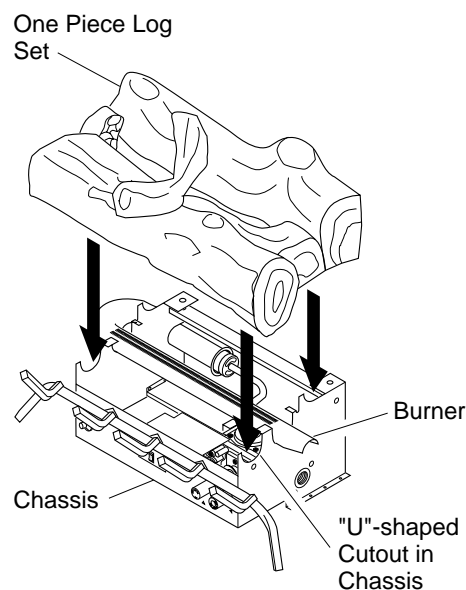

Figure 17 - Installing Vintage Oak One-Piece Log Set
1. Place one-piece log set on grate to fit as illustrated in Figure 17. Make sure middle section at bottom of log set is seated into "U"-shaped cutout in center of chassis (see Figure 17). Log will fit securely on chassis. **IMPORTANT:** Make sure log does not cover any burner ports.